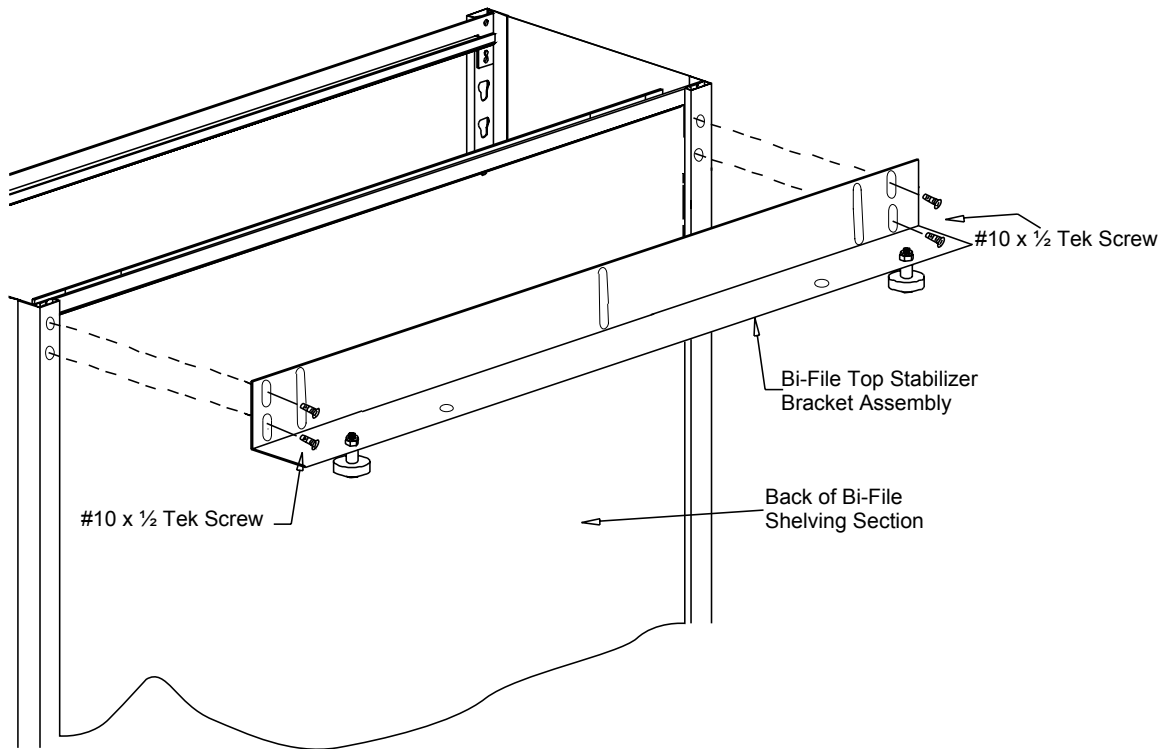

FIGURE 6
STEP 1 Fasten the Bi-File Top Stabilizer Bracket assembly to the top back of each Bi-File Shelving sections by using four (4) #10 x 1/2 Tek screws. **See Figure 6.**